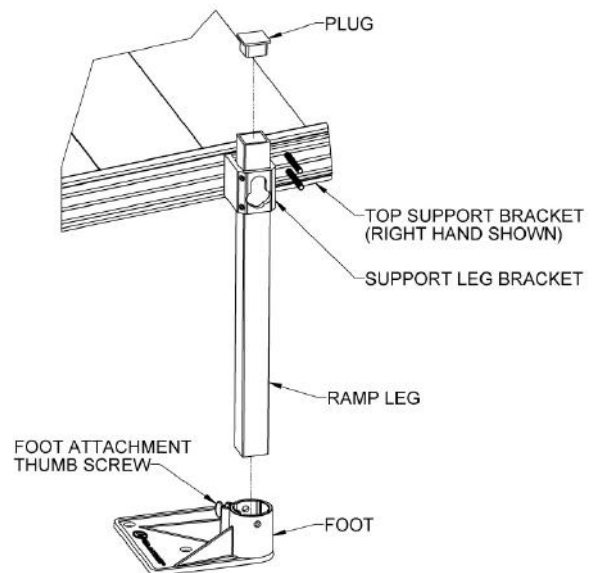

FIG. 7.2
- 7.1.3. Install and level Support Leg Brackets on the two shorter studs of the top support bracket in the same manner described in Section 3.3 (FIG. 7.2).
- 7.1.4. Locate the appropriate PRLxxPR (RAMP LEG PAIR where xx denotes the leg length) for the location and install in the same manner described in Section 3.3 (FIG. 7.2).